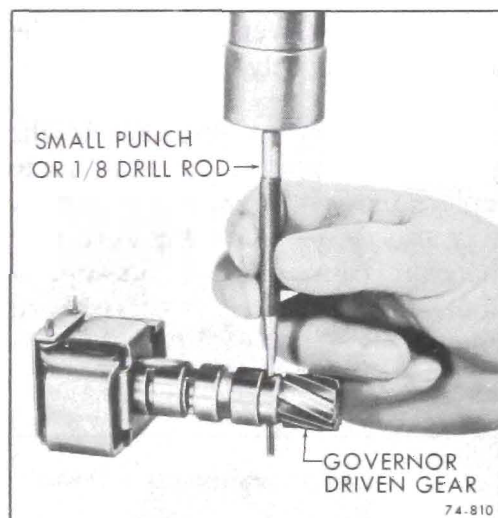

Figure 76-601
1. Drive out governor gear retaining split pin using small punch or 1/8" drill rod. See Figure 76-601.